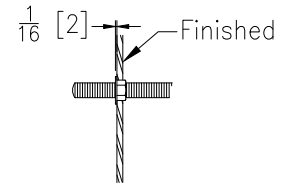

Figure 16.
16. Thread a backup nut and bearing washer onto each 5/8 [16] rod. Adjust hardware so that the front surface of each flat washer is 1/16 [2] in front of the finished wall (see **Figure 16**). All bearing washers must be on the same plane to support the fixture and prevent cracking.